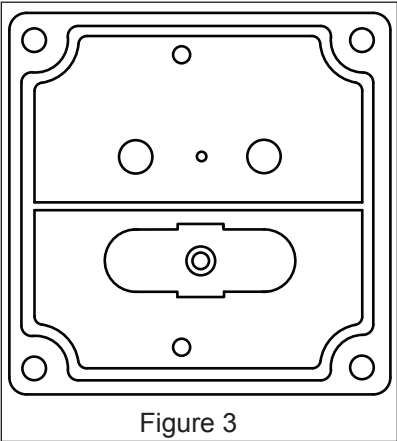

Figure 3
STEP 8. Install the new head gasket, seating it firmly into the groove with your finger or blunt object (See Figure 3). Set aside.